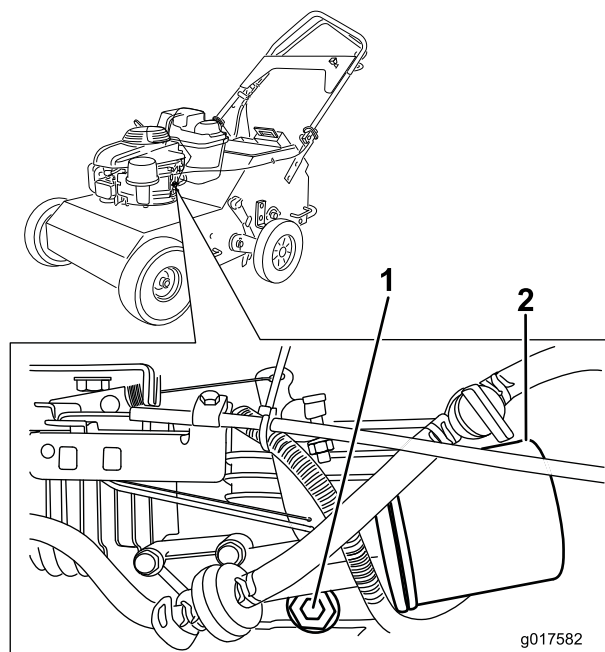

Figure 26
6. Remove the drain plug (Figure 26) and tip the machine so the oil flows to the pan.
2. Place a rag under the oil filter (Figure 26) to catch any oil that may leak out as you remove the filter.